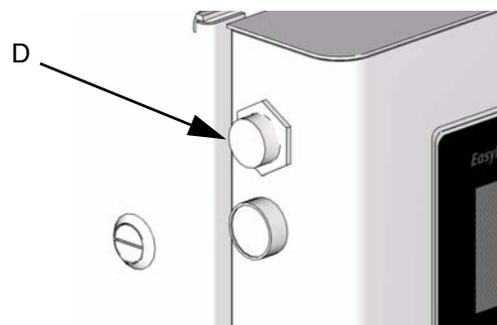
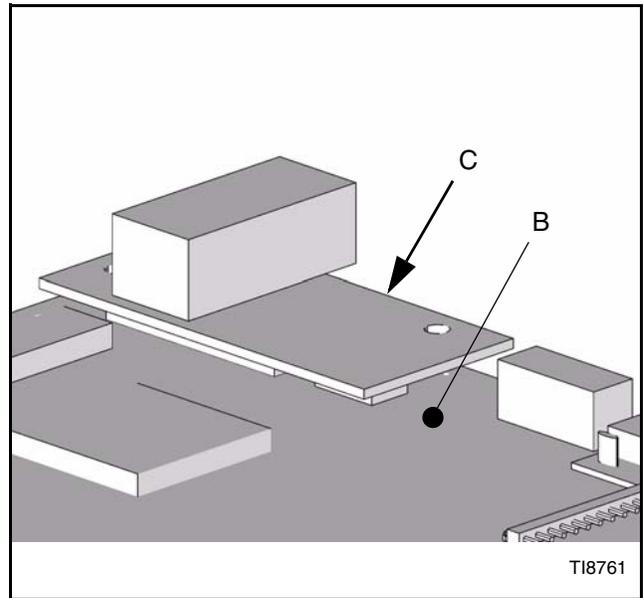

Fig. 39 RJ45 Bulkhead Connector Installation
FIG. 41
5. Plug the Ethernet Assembly 249183 (C) into J9 making sure the RJ45 connector is oriented down. See FIG. 41 and FIG. 42.
6. Secure the Ethernet Assembly 249183 (C) to the EasyKey Display 249480 (B) using the hardware provided.
7. Remove plug (D) covering Ethernet opening at the upper right corner of the Control Panel. See FIG. 39.
9. Connect one end of the Ethernet cable to Ethernet Assembly 249183 (C).